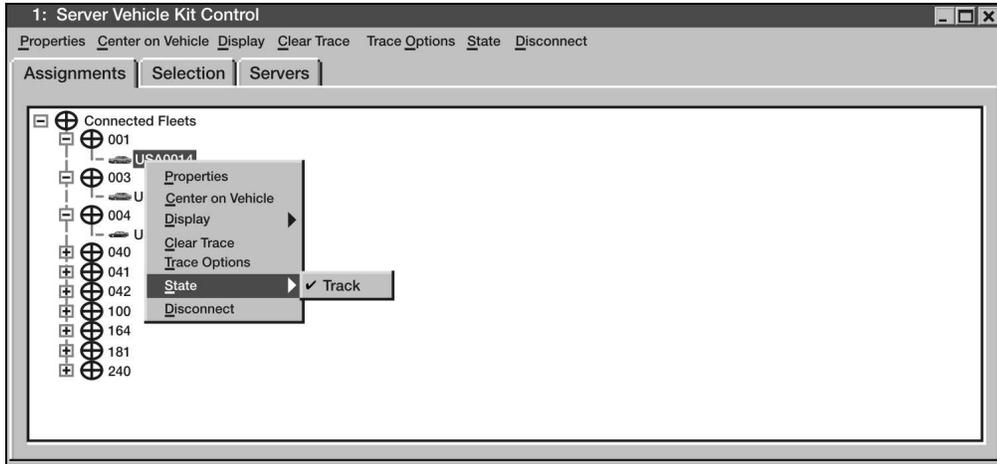

Figure 3-115. Autotrack Function
- d. Enable Autotrack function (see Figure 3-115).
- (1) Right click on the map to get the pop up menu.
- (2) Choose the Select Vehicle option from the pop up window.
- (3) Click on the vehicle you wish to track. The Server Vehicle Kit Control Window will open with the Selection tab containing a list of vehicles.
- (4) Right click on the vehicle you wish to track, select State then Track.